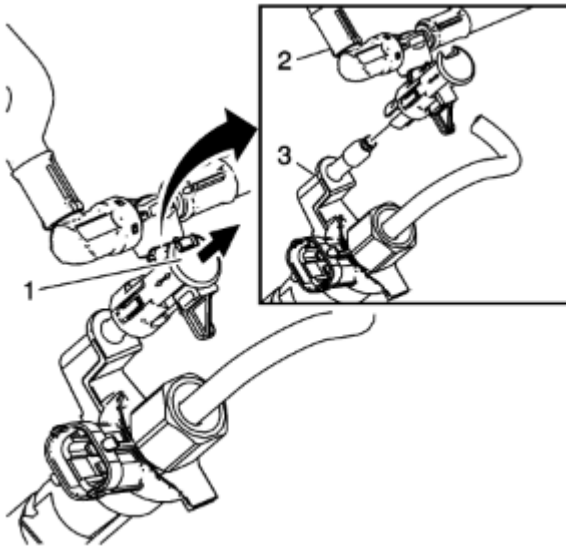

Fig. 41: Disconnecting the injector return line
- c) Disconnect the fuel return line from the injector by pulling upwards on the locking sleeve. See figure 41.